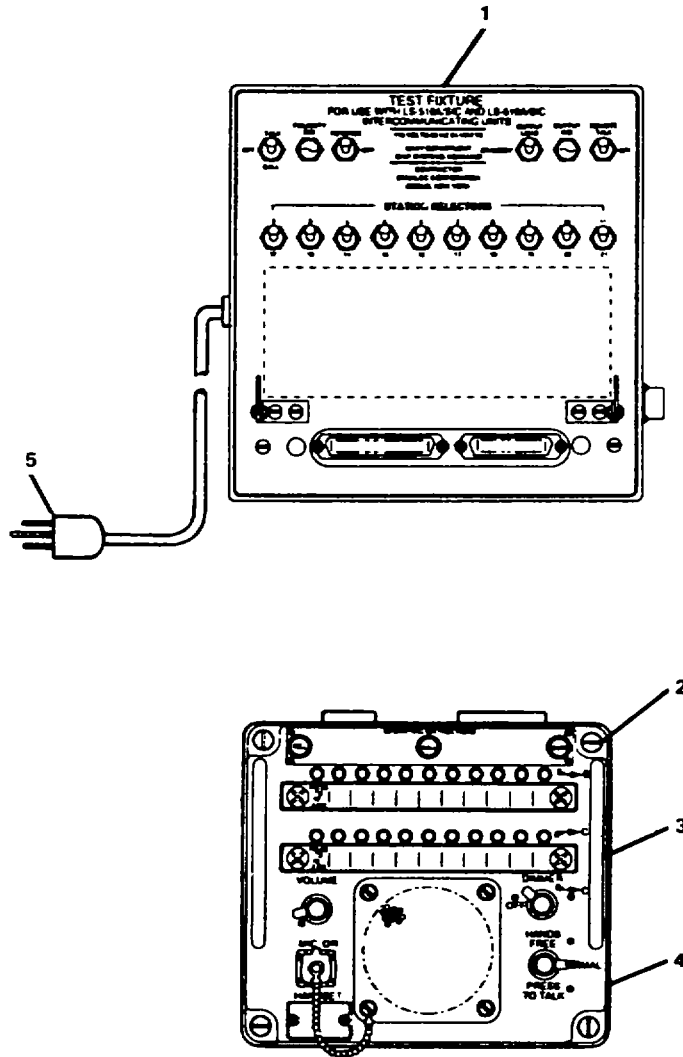

Figure 2-116. Remove Intercommunication Unit.
- (1) Unplug power cable (5, Figure 2-116) from receptacle.
(2) Remove test fixture (1).